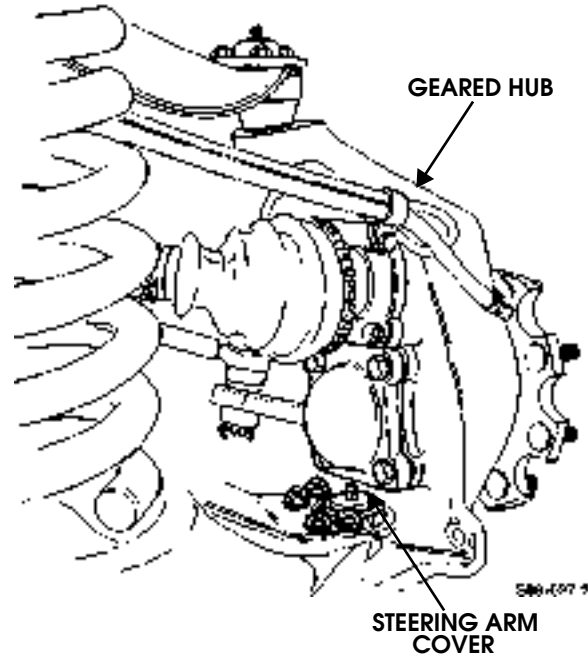

Figure 9-43: Steering Arm Cover Installation
3. Remove four bolts, washers, and steering arm cover from geared hub. Push steering arm cover away from geared hub (Figure 9-43).
16. Clean sealing surfaces on geared hub and steering arm cover. Apply anaerobic sealant to steering arm cover and install on geared hub (Figure 9-43).